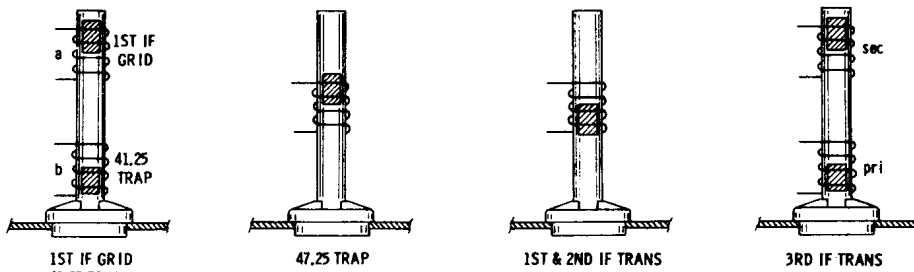

FIGURE 16. COIL CORE POSITIONS
5. All coil slug tuning positions, in relation to chassis, are given in the procedure chart and in the separate detail of Figure 16.